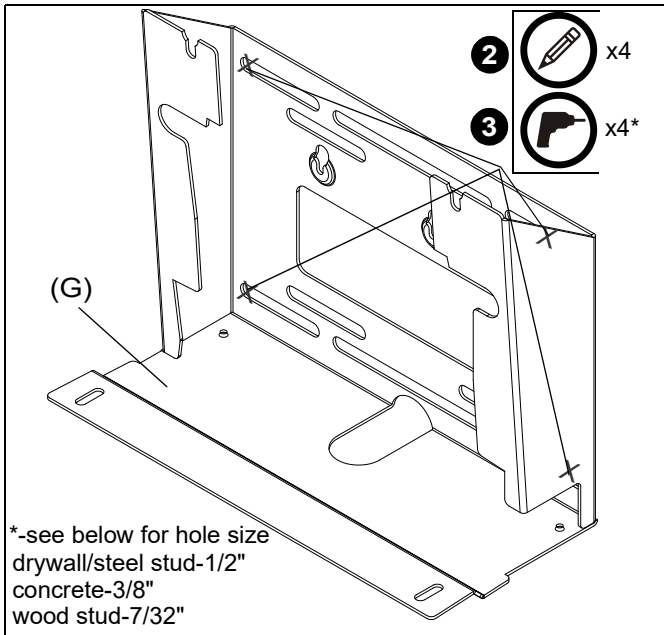

Figure 1
1. Hold kiosk bracket (G) up to wall at desired mounting location. Use a level to make sure the bracket is level. (See Figure 1)
2. Mark hole locations on wall. If mounting to steel stud, make sure one set of holes is located over middle of steel stud. (See Figure 1)
3. Drill 1/2" pilot holes at hole locations. (See Figure 1)
- Hold kiosk bracket (G) up to wall at desired mounting location. Use a level to make sure the bracket is level. (See Figure 1)
- Mark hole locations on wall. (See Figure 1)
- Drill 3/8" pilot holes with a depth of 3 1/4" at hole locations. (See Figure 1)
- Hold kiosk bracket (G) up to wall at desired mounting location with one mounting location centered over a single wood stud. Use a stud finder to locate wood stud and use a level to make sure the bracket is level. (See Figure 1)
- Drill 1/2" pilot holes at hole locations NOT on wood stud. Drill 7/32" pilot holes at hole locations ON wood stud. (See Figure 1)